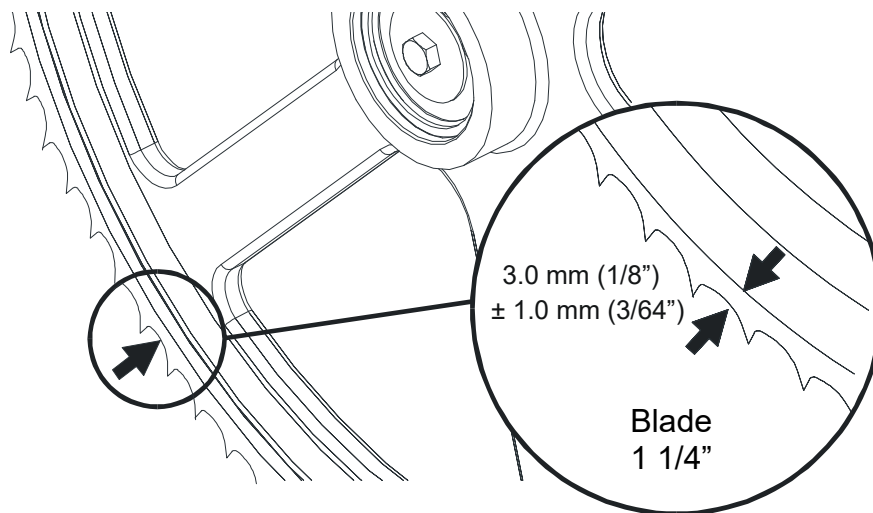

FIG. 2-22.
**See Figure 2-22.** Position 1 1/4" wide blade on the wheels so the gullet is 3.0 mm (0.12") ± 1.0 mm (0.04") out from the front edge of the wheel.